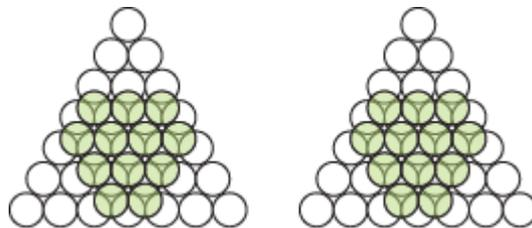

Figure C20. Two layers of close-packed planes.
**E12.** Copper has an FCC structure. Draw the third layer on the Figure C20 shown below, left, to make it. There is an axis of symmetry normal to the plane of the figure. What is it?